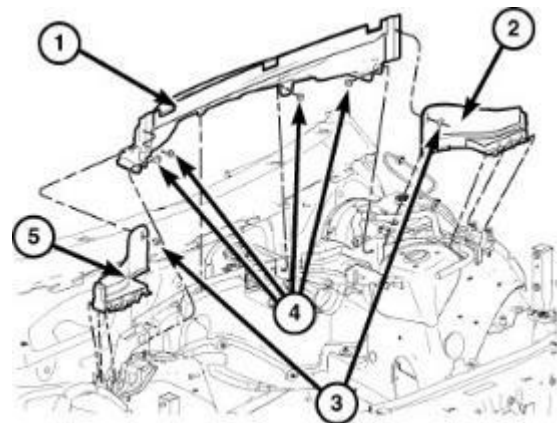

Figure 26 – Engine Cover
9. Remove the cowl extension (1) and the side extensions (2, 5) (Refer to 23 - Body/Exterior/SILENCER, Cowl Extension/Removal) (Figure 26).